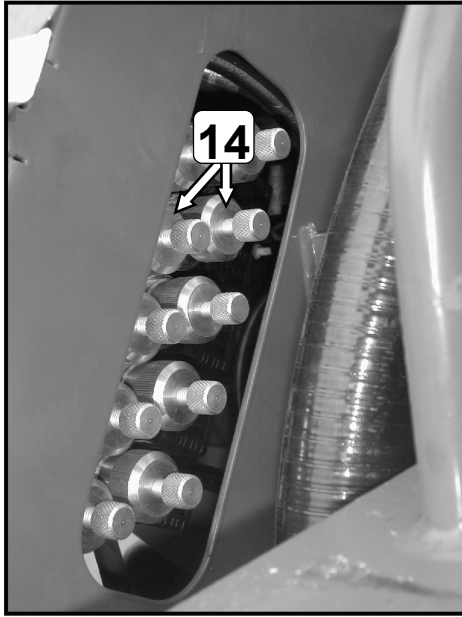

Fig. 5
- To operate a function, push the corresponding toggle switch upwards, the corresponding pair of solenoid valves (14) (or solenoid valve in case of HPT spray boom) on the spray boom is opened (fig. 5).